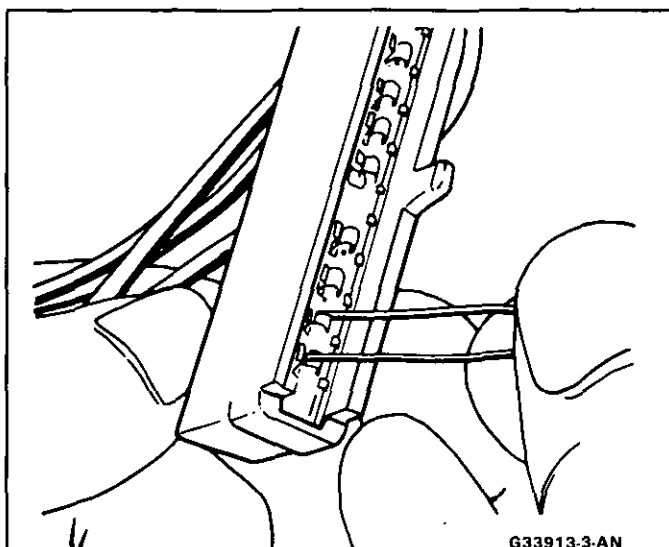

Fig. 1 Checking Reminder at Chassis Connector
Figs. 1 through 11
2. Open in chassis wiring. Check by separating chassis-to-column connector. Connect terminals "E" and "F" female contacts on the chassis side (Fig. 1) (a bent paper clip will work). If the reminder sounds, repair chassis wiring. If the reminder does not sound, go to Step A.